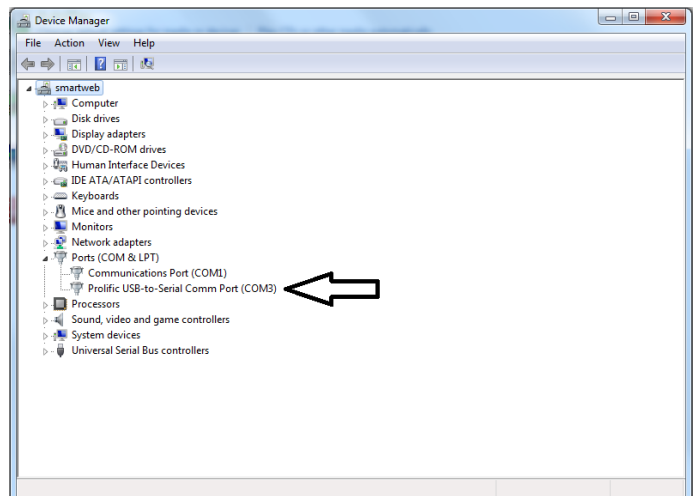

Figure 7-2
3. Use Windows Control Panel / Device Manager to identify the Com port number. See instructions and Figure 7-2 below.